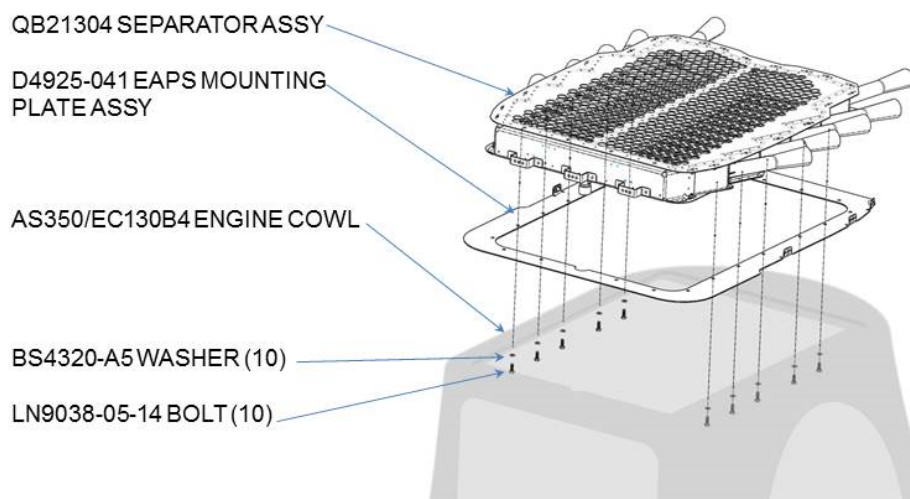

Figure 6- EAPS Panel Assy/D4925-041 Mounting Plate Installation
- 3.1.10. Fasten the QB21304 EAPS panel and the D4925-041 EAPS Mounting Plate to the Engine Cowl using Qty (10) LN9038-05-14 bolts and Qty (10) BS4320-A5 washers (5 per side). See Figure 6.